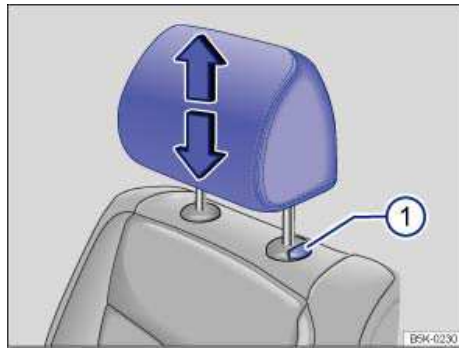

Fig. 38 Adjusting the head restraints.
- Pull the head restraint up in the direction of the arrow, or push it down while pressing the button ⇒ **fig. 38 (1)** ⇒ ⚠.